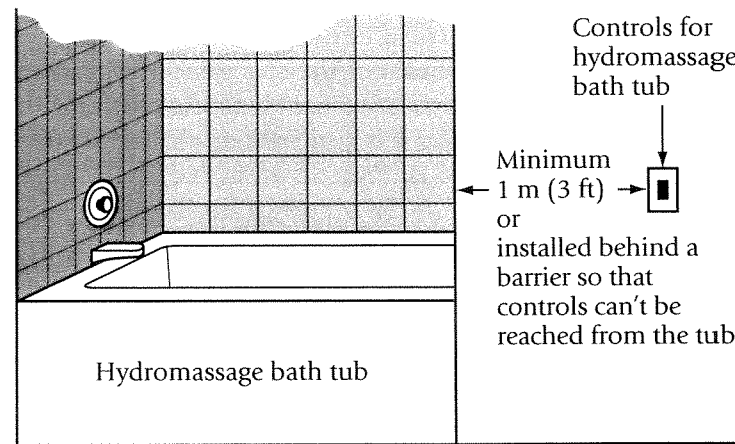

Figure 62
- located behind a barrier or more than 1 m (3 ft) horizontally from the wall of the hydromassage tub (see Figure 62); or
- located behind a barrier or more than 1 m (3 ft) horizontally from the wall of the spa or hot tub (see Figure 62); or